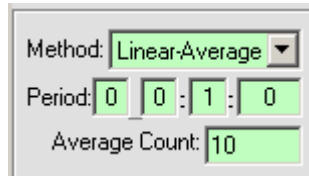

Figure 3.14
- **Linear-Average** - Data is sampled at a specified period but logged to non-volatile memory at a slower rate. Each logged linear data sample is the averaged value of the specified consecutive samples (2-250) that were acquired at the defined sampling rate (figure 3.14).